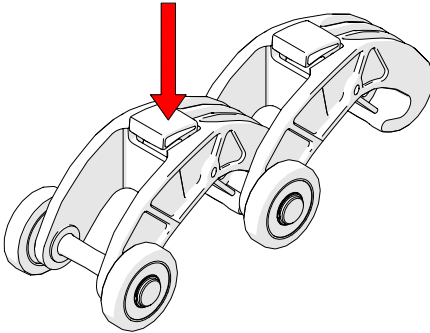

Fig. 97 - Press button
1. Press the button on the top of the short link (Fig. 97).